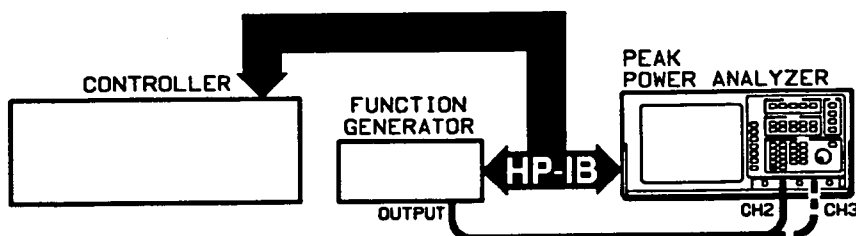

Figure 2-53. Compensation Adjustment Setup
6. Connect the equipment as described on the screen and shown in figure 2-53.